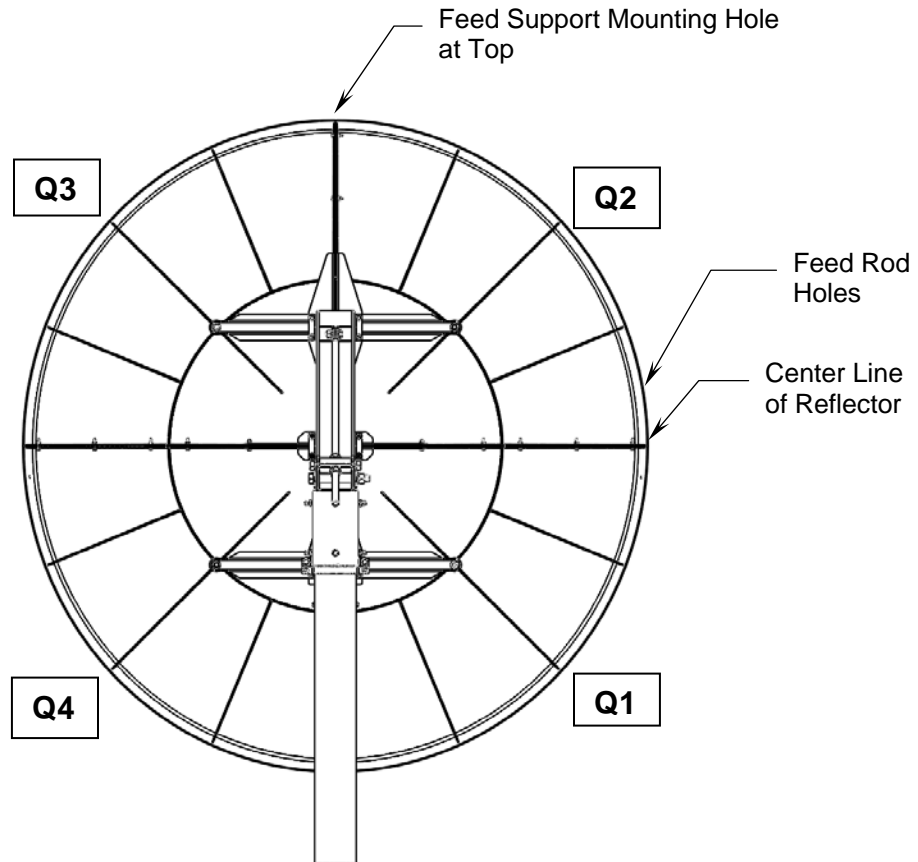

Figure 4: Reflector Orientation Inverted
To allow a lower profile installation or in areas of high snow accumulation, the reflector can be assembled in the inverted position (feed support at the top). In this position, quadrant #1 would be in the lower right; #2 upper right; #3 in upper left and #4 in lower left position. See Figure 4.
- 1) Place an inclinometer on the reflector support as shown in Figure 4. Remember to add 17.35 degrees to the reading to allow for the reflector's offset angle (or subtract 17.35 degrees if inverted)